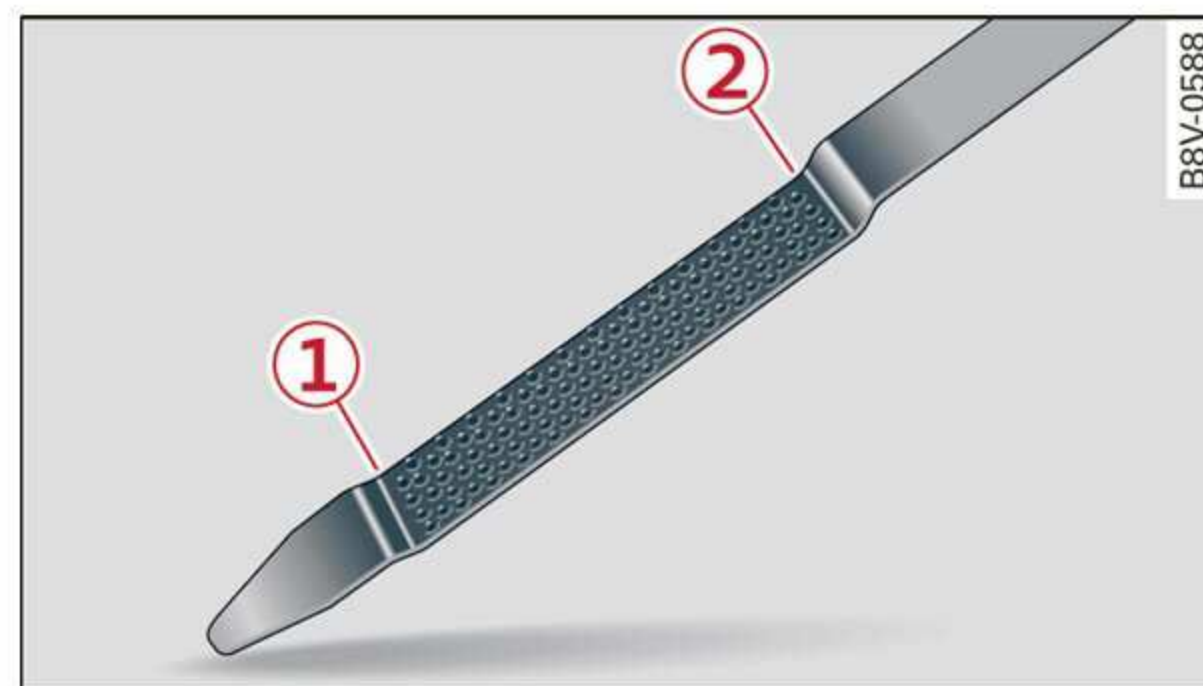

Fig. 175 Oil dipstick (example): checking the engine oil level
Areas on the oil dipstick ⇒ fig. 175 .
- The engine oil level must not be below the marking ①, because this increases the risk of engine damage.
- After adding engine oil, the oil level must not be above the marking ② ⇒ *fig. 175*, because this increases the risk of catalytic converter and/or engine damage. If the oil level is above the marking ②, drive to an authorized Audi dealer or authorized Audi Service Facility immediately to have any engine oil extracted. Avoid high engine speeds, full acceleration, and heavy engine loads.